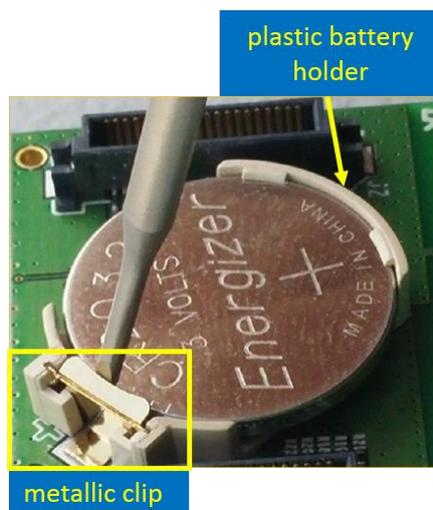

Figure 17: Rear View of the DA1468x Daughterboard
- 7. Connect the potentiometer to the Pro DevKit as illustrated in Figure 17. For this demonstration, a simple 3-terminal potmeter has been selected. Two terminals are connected to the main power source, that is 3.3 V and GND, and the third to the selected ADC pin on Pro DevKit, that is **P1\_2**.